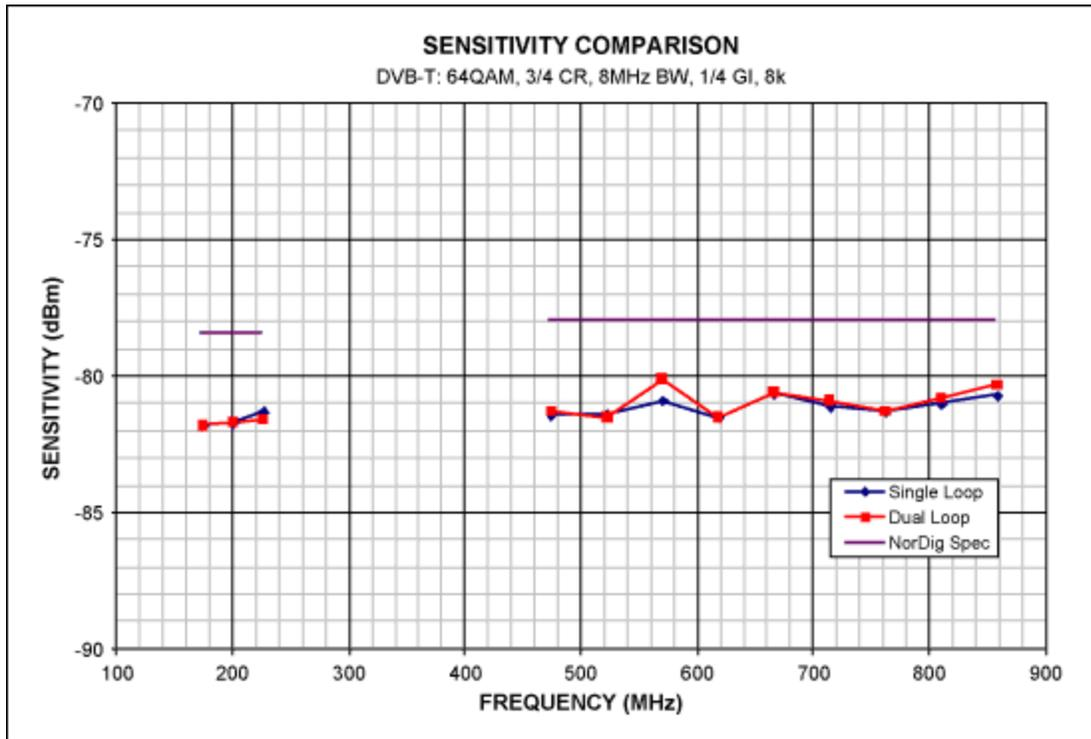

Figure 1. Sensitivity comparison between dual-loop and single-loop AGC control.
**Figure 1** shows a performance comparison between dual-loop and single-loop AGC control of the
Figure 1 shows that sensitivity is similar for dual-loop and single-loop AGC control. The margin to NorDig exceeds 2dB. The QEF limit here is  $BER = 2e-4$ . Due to measurement system limitations, an 8MHz bandwidth signal is used for both VHF-III and UHF measurements. Note that a 0.6dB improvement in VHF-III sensitivity is expected when measured with the 7MHz bandwidth signal specified by NorDig.